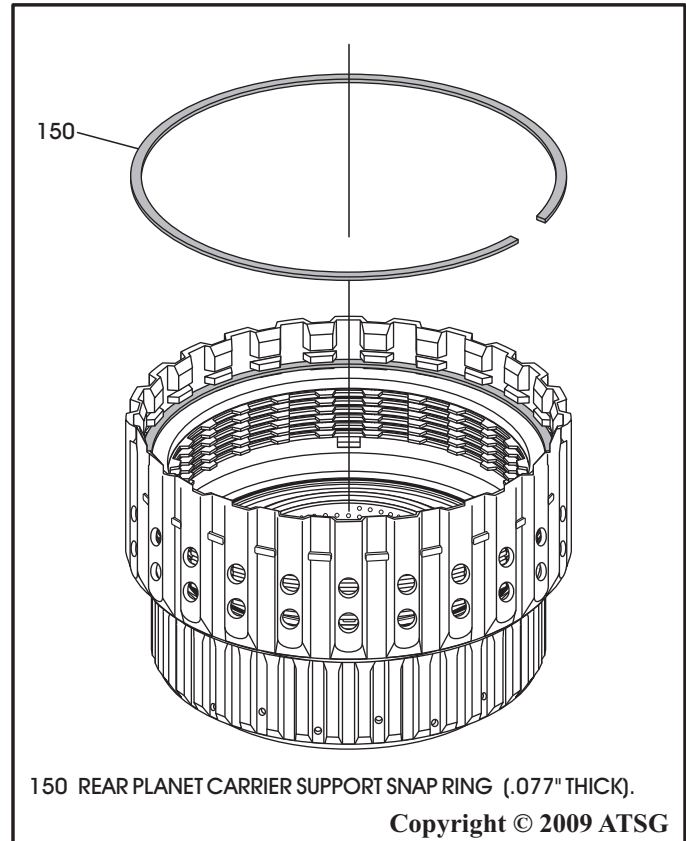

Figure 147
17. Now, install the rear planet carrier support snap ring into the direct clutch housing, as shown in Figure 147.